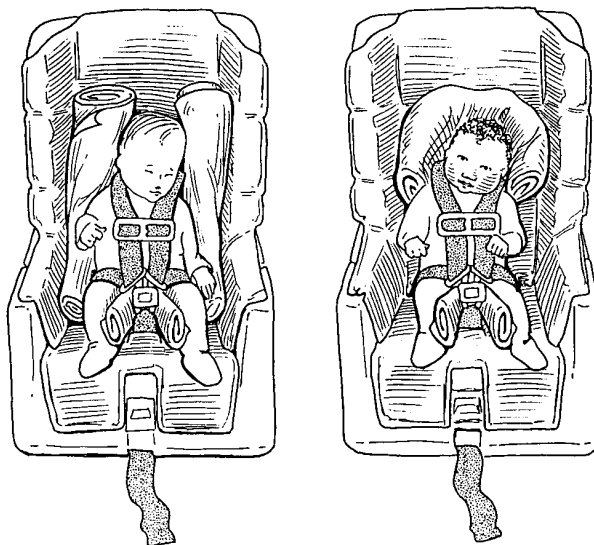

Figure 13-3. Extra Support for Infant in a Rear-Facing Infant Seat.
- For extra support for infants (see Figure 13-3), you may roll a towel or diaper and: